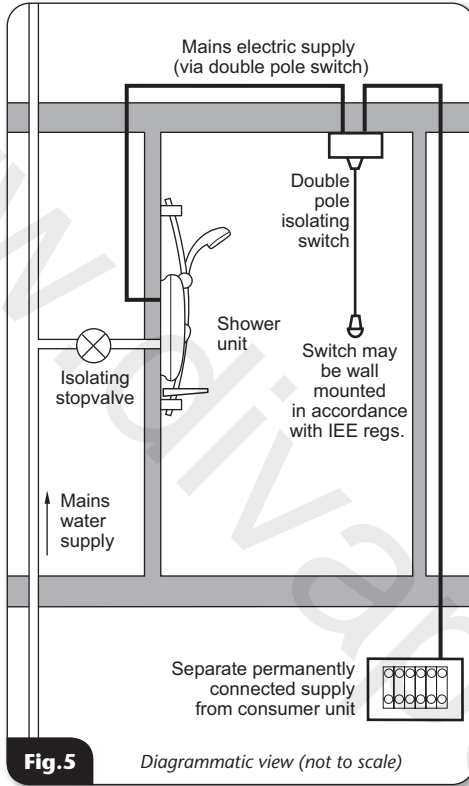

Fig.5
**Fig.5** shows a typical system layout.